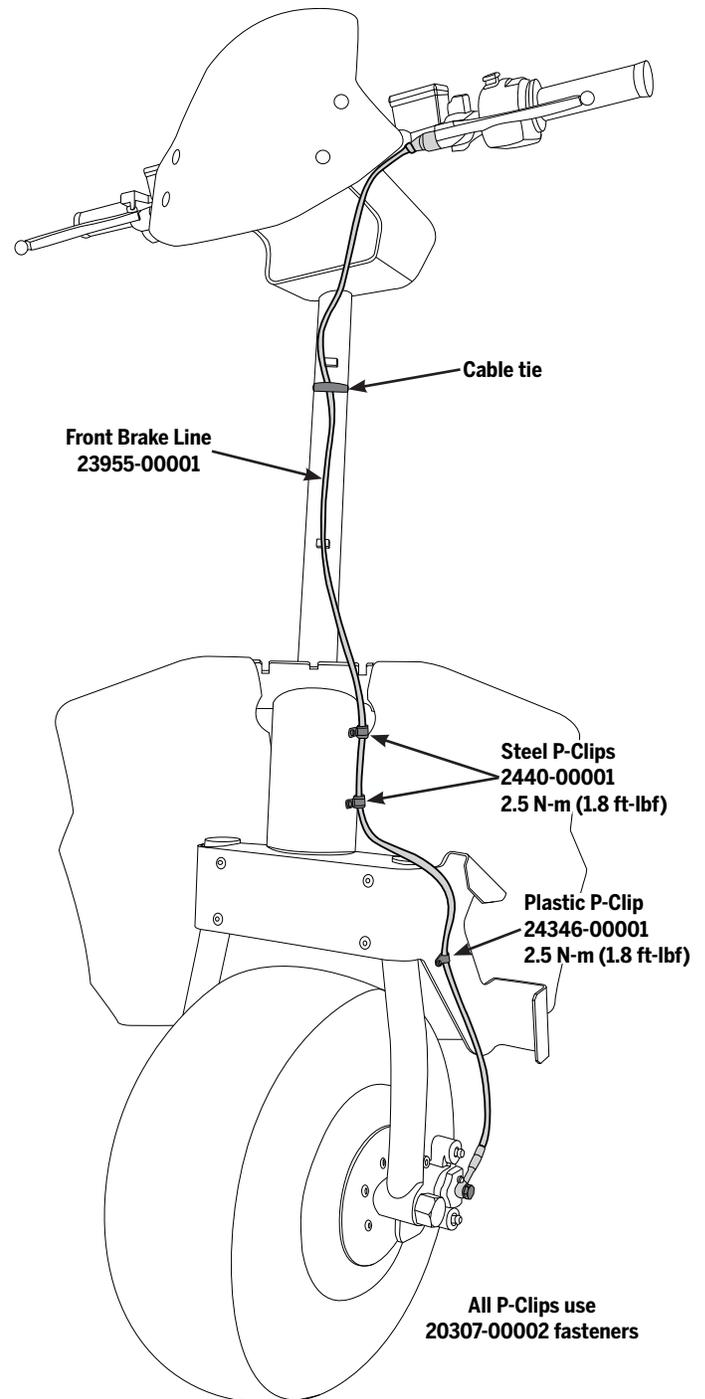

Figure 100: Front Brake Line
5. Using a 2.5 mm hex wrench, remove the three P-Clips. See Figure 100.
6. Using wire cutters, remove the cable tie on the steering column. See Figure 100.
7. Using a 2.5 mm hex wrench, install three P-Clips: two on the frame and one on the Front Fender Bracket. See **Figure 100**. Torque to **2.5 N-m (1.8 ft-lbf)**.